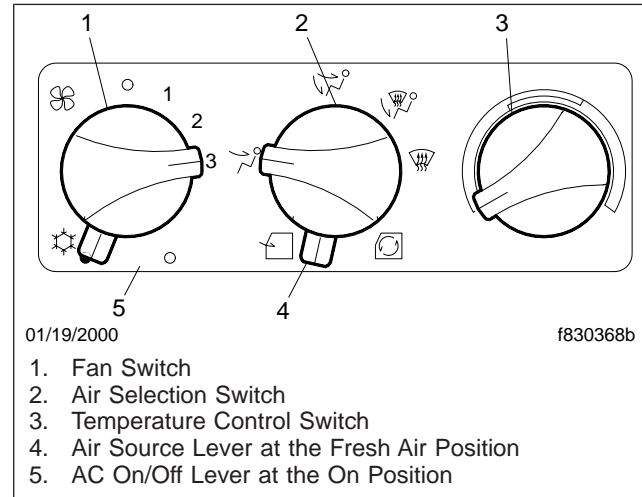

Fig. 3.37, Air Conditioning Settings
6. Turn the fan switch to the highest speed. See Fig. 3.37.
1. Move the air source lever (if equipped) to the fresh air position. See Fig. 3.37. Move the air selection switch to the desired position.